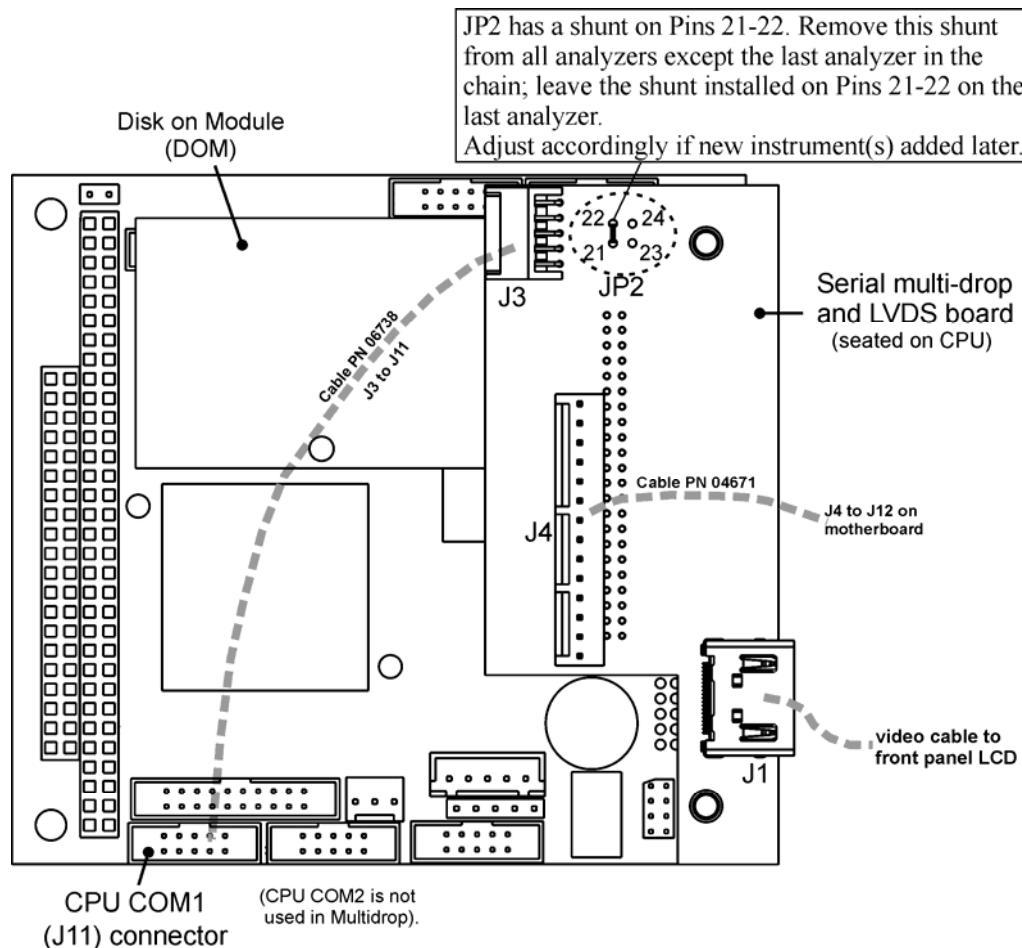

Figure 3-14: Jumper and Cables for Multidrop Configuration
In each instrument with the Multidrop option there is a shunt jumpering two pins on the serial Multidrop and LVDS printed circuit assembly (PCA), as shown in Figure 3-14. This shunt must be removed from all instruments except that designated as last in the multidrop chain, which must remain terminated. This requires powering off and opening each instrument and making the following adjustments:
2. On the Multidrop/LVDS PCA's JP2 connector, remove the shunt that jumpers Pins 21 ↔ 22 as indicated in Figure 3-14. (Do this for all but the last instrument in the chain where the shunt should remain installed at Pins 21 ↔ 22).
3. Check that the following cable connections are made in *all* instruments (refer to Figure 3-14):